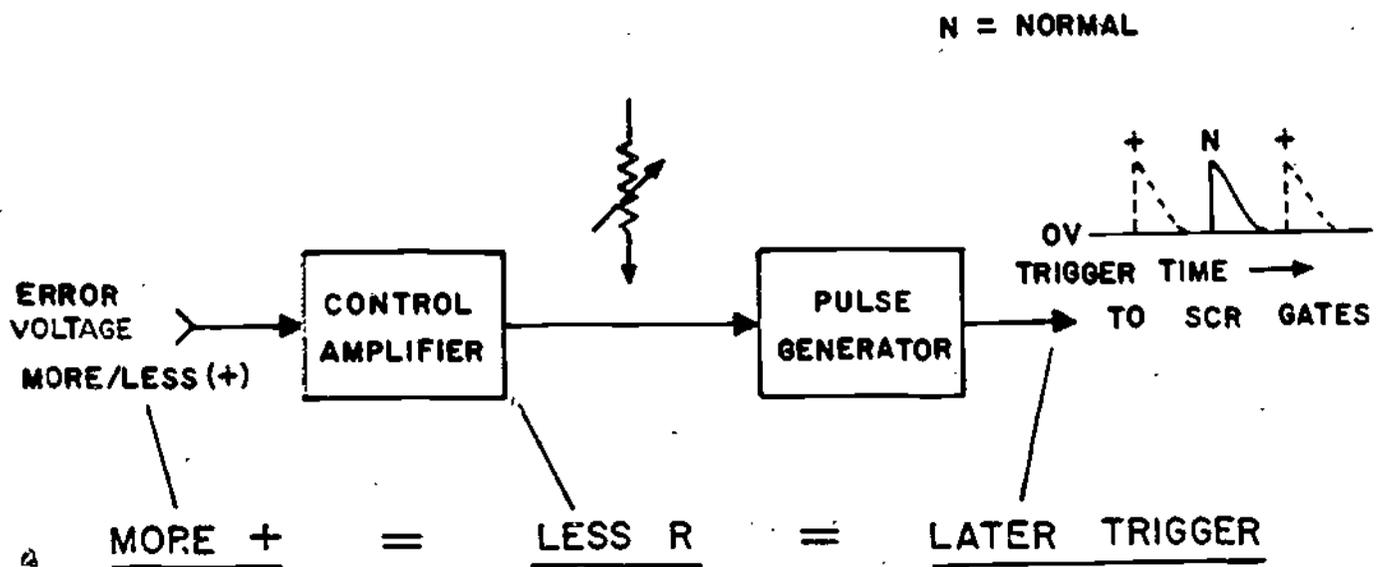

Figure 2
Again refer to the schematic shown in Figure 2 and the components which make up the pulse generator circuit. This circuit is made up of unijunction transistor Q2, C1, R2, R3, and R4. If you do not recall how UJT's oscillate to produce trigger output pulses, refer to Lesson 2 of Module 25.
3. Figure 2 shows pictorially how the SCR's conduction time is controlled.
Notice the waveforms shown in the upper right hand corner of Figure 2. These waveforms indicate trigger time in relation to the input error voltage. The waveform on the left shows that when the error voltage is less positive, the pulse generator triggers the SCR gates earlier, and the waveform on the extreme right shows that when the error voltage is more positive, the pulse generator triggers the SCR gates at a later time. Make sure you understand how the error voltage influences the pulse generator before proceeding further with this lesson.